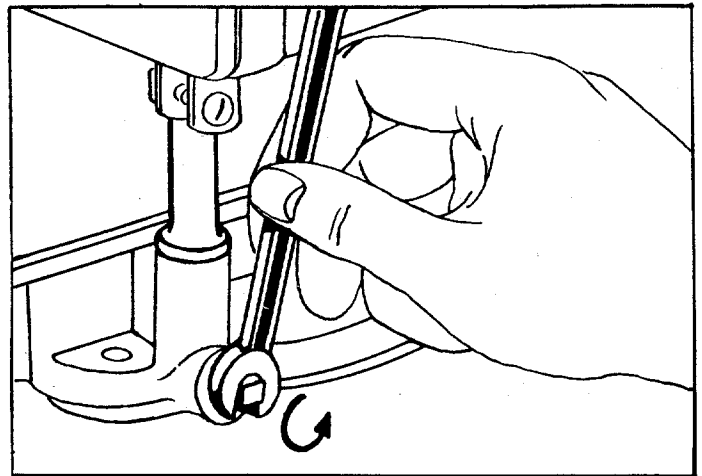

FIGURE 13. OIL DRAIN
After the first five hours of operating a new engine, drain the oil (See figure 13.) from the crankcase while engine is still hot and refill crankcase with new oil; thereafter change the oil every 25 hours of operation. This procedure ensures for minimum wear of engine parts and provides for virtually trouble-free operation. To change the oil, proceed as follows:
- Step 1. With the machine on level ground, place a suitable metal container under the oil drain plug, then remove the drain plug. See figure 13.